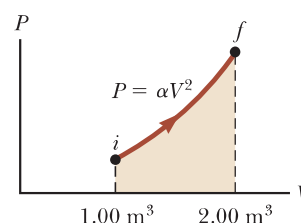

Figure P20.29
29. An ideal gas is taken through a quasi-static process described by  $P = \alpha V^2$ , with  $\alpha = 5.00 \text{ atm/m}^6$ , as shown in Figure P20.29. The gas is expanded to twice its original volume of  $1.00 \text{ m}^3$ . How much work is done on the expanding gas in this process?